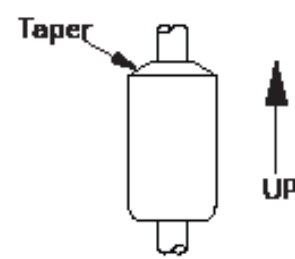

FIGURE 4.1
- The float(s) is/are oriented properly on the stem (See Figure 4.1 below). MPXI-F floats are installed by customer.
- Slide floats onto stem. If using two floats, slide the lighter float on first. Tops of floats will be indicated by sticker, taper, or etching on float. (See Figure 4.1) After ensuring top of float is toward MPXI-F sensor head, remove sticker(s).